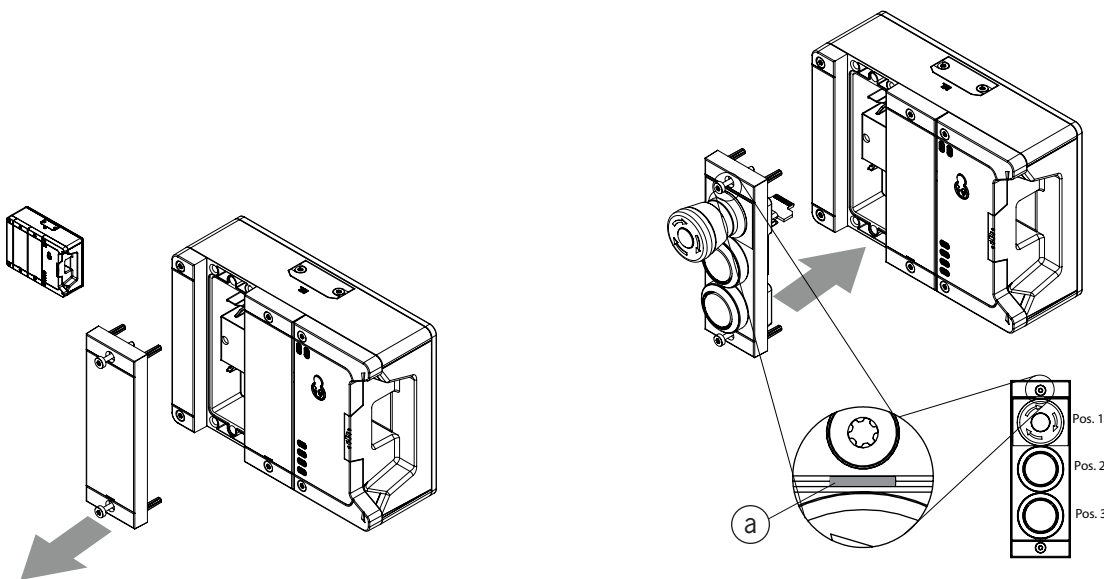

Figure 9: Mounting submodule
- Pay attention to the alignment of the submodule. See marking (a) in *Figure 9: Mounting submodule*. Submodules can also be installed rotated by 180°. The marking (a) always indicates the first installation position. In the example, the emergency stop S1 is underneath.